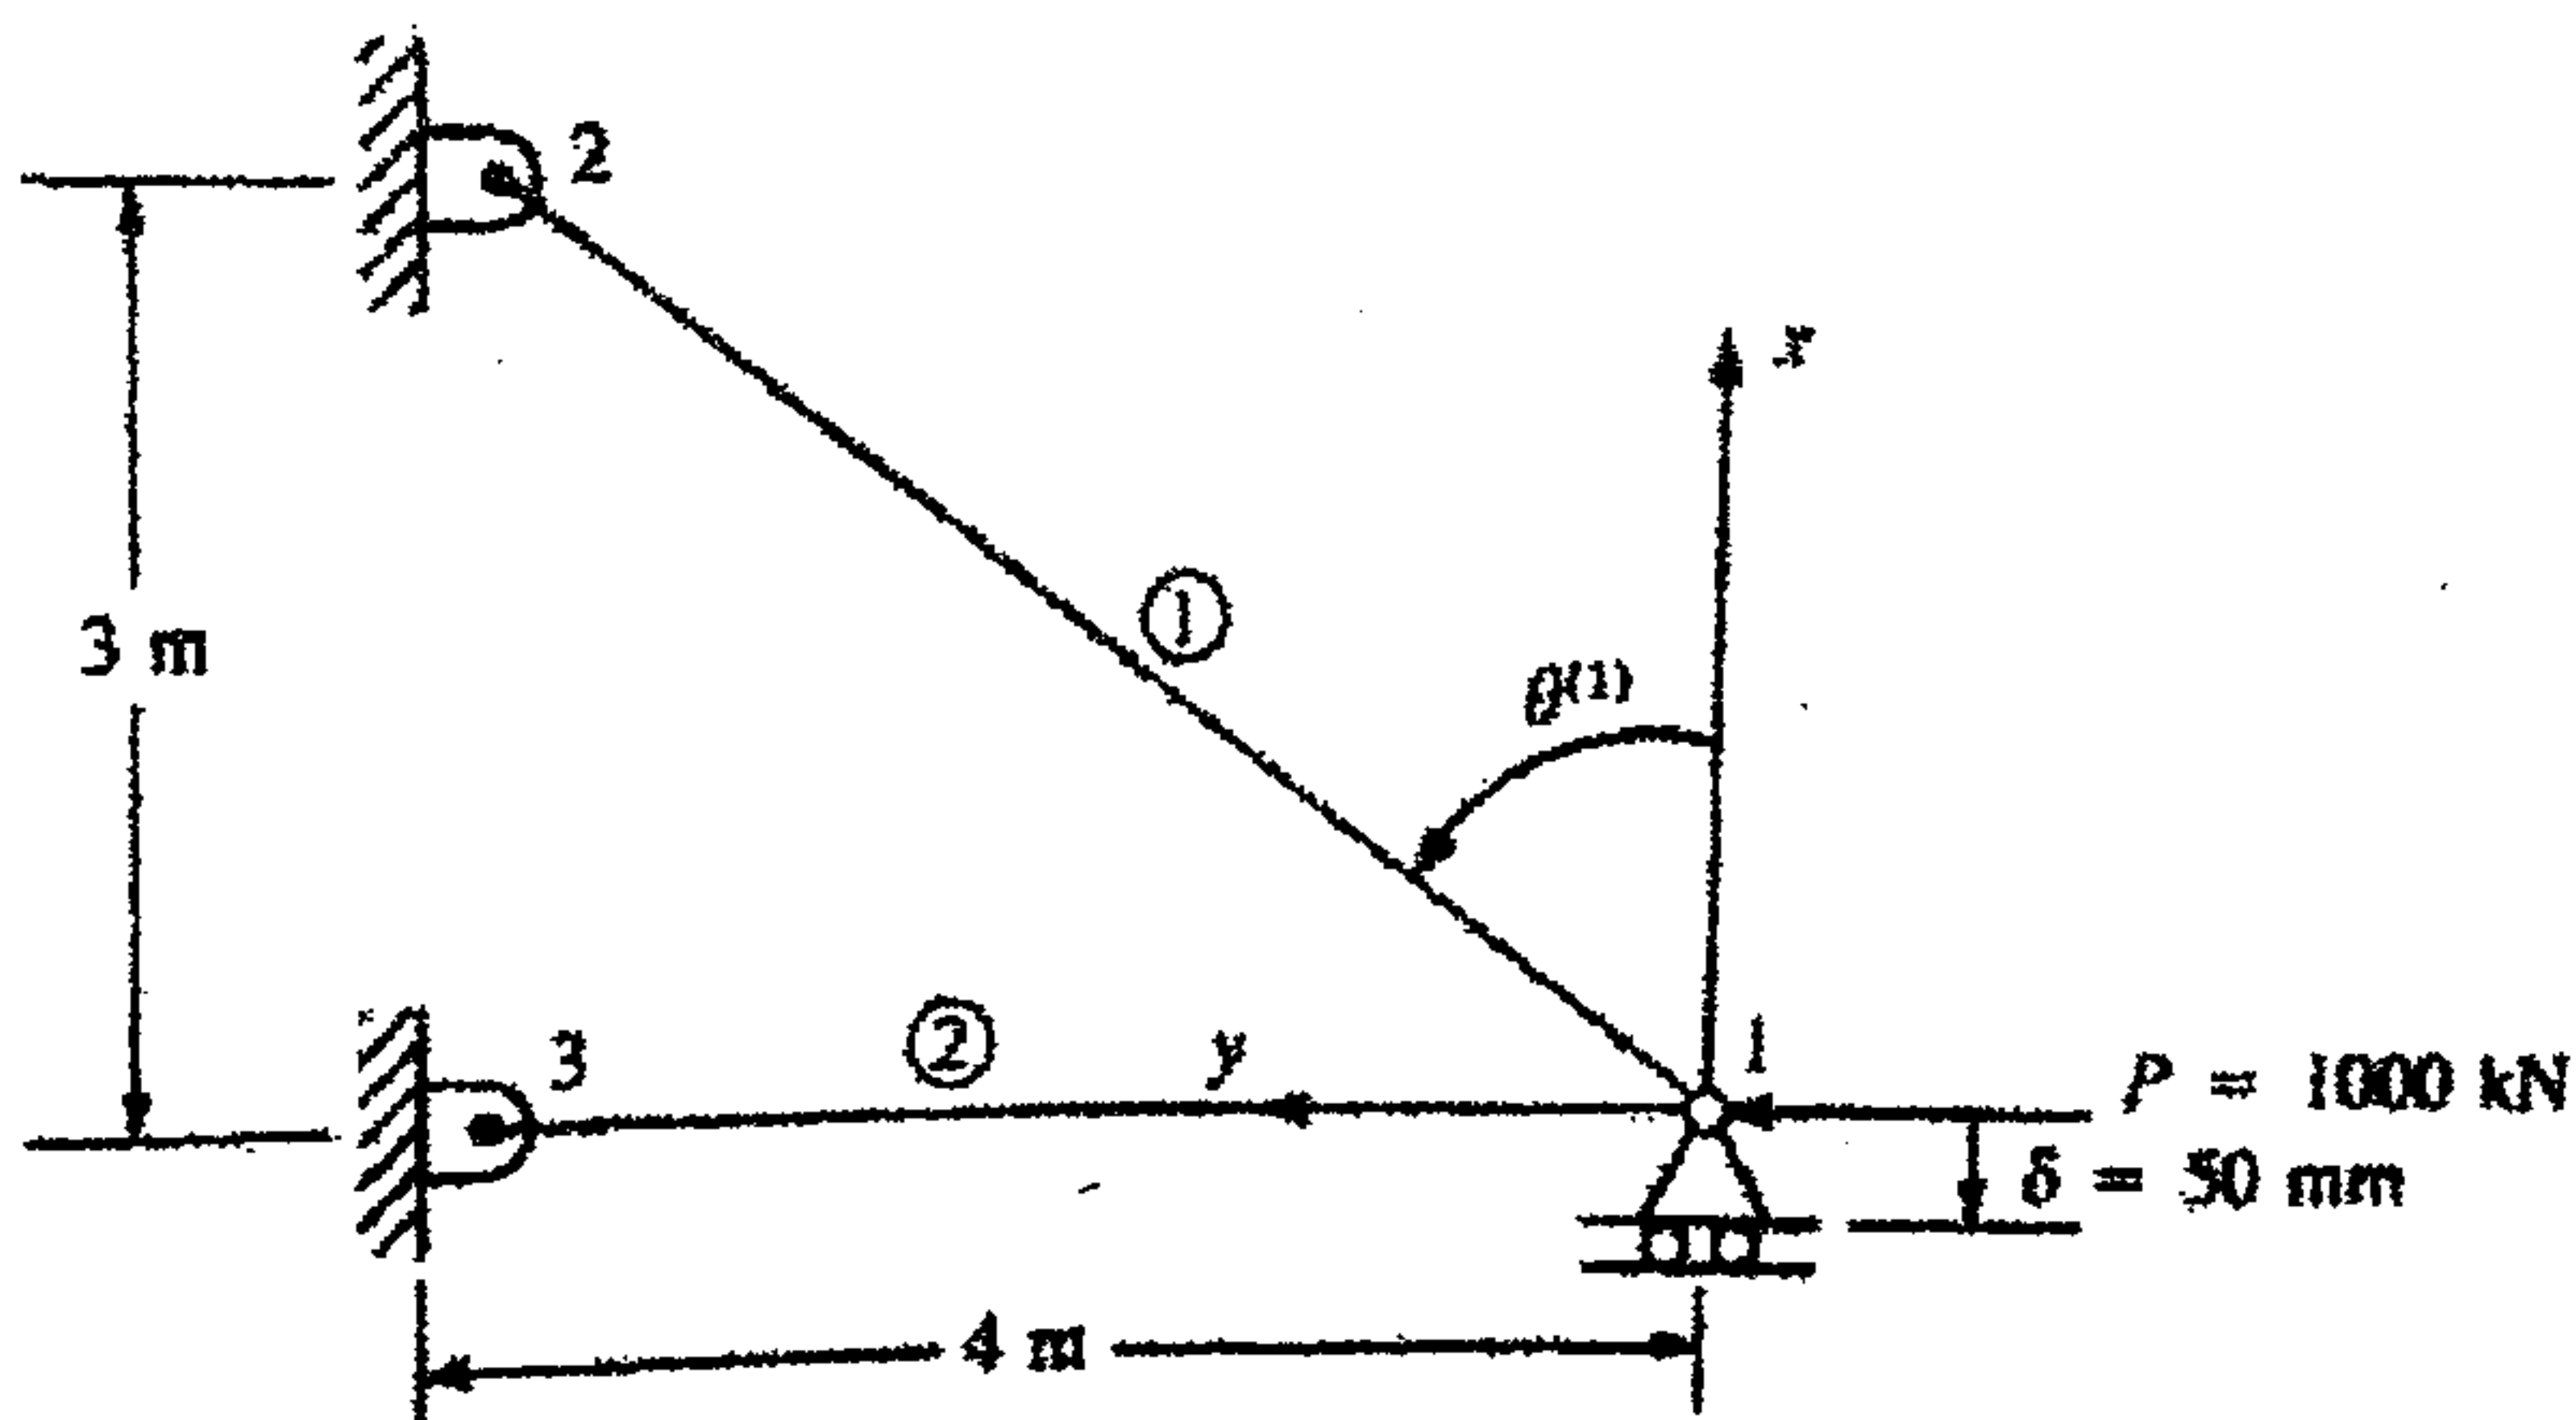

Figure 1
- b) For the two-bar truss shown in figure 1 below, determine the displacement in the y direction of node 1 and the axial force in each element. A force of $P = 1000 \text{ kN}$ is applied at node 1 in the positive y direction while node 1 settles an amount $\delta = 50 \text{ mm}$ in the negative x direction. Let $E = 210 \text{ GPa}$ and $A = 6 \times 10^{-4} \text{ m}^2$ for each element. The lengths of elements are shown in the figure. 10